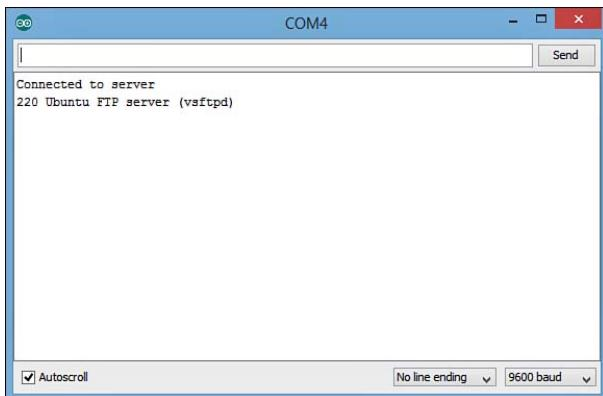

FIGURE 21.2
This code snippet uses the `EthernetClient` class to connect to the `ftp.ubuntu.com` FTP server on the standard FTP port (21). The FTP server returns a welcome message, which is received using the `read` method and displayed on the serial monitor. Figure 21.2 shows the output in the serial monitor after you run this program.